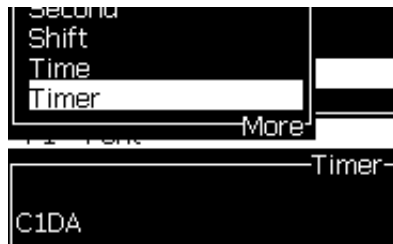

Figure 5-42: Timer User Field
- 6 Press *F2* to open the *Select user field* window and select the *Timer* option. You can see the format that you set above, in the preview window shown in Figure 5-42.